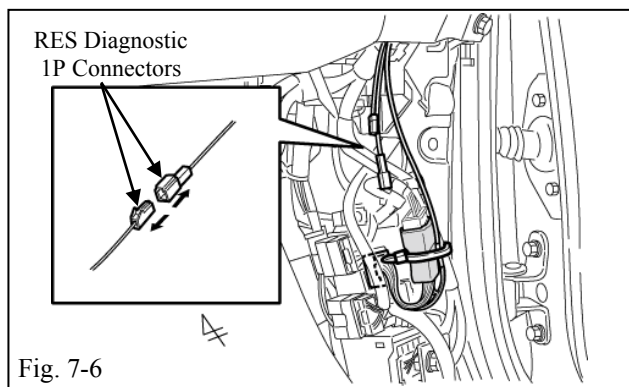

Fig. 7-6
- (l) Disconnect the RES Harness White 1P Connectors from the Passenger's Side Cowl Area. (Fig. 7-6)